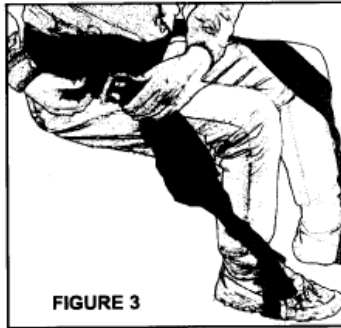

FIGURE 3
3. Making sure the straps are untwisted, bypass the knee and insert the pronged buckle into the receptacle on the belt. See Figure 3.